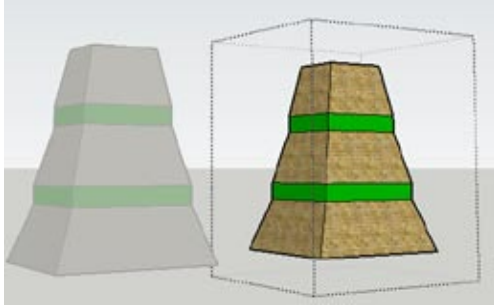

Figure 8-24
8. Open the group for editing (activate Select and double-click the group). Pick a new material and use the Shift key to replace all of the stone faces (Figure 8-24).